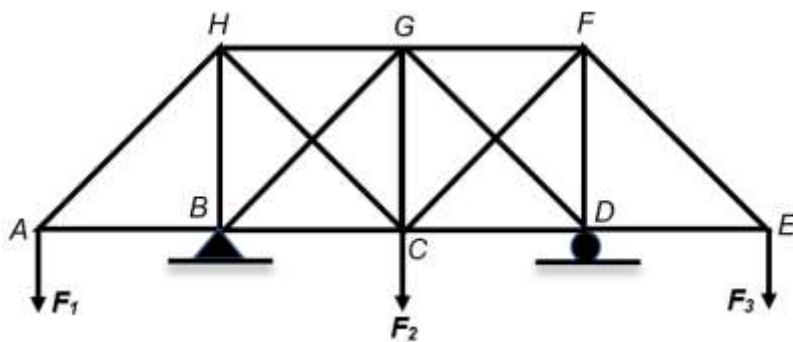

Figure 5
- (b). The truss system shown in **Figure 5** is subjected to a few concentrated loads. Without any calculation, explain the analysis procedure to determine the force in each member of the truss.